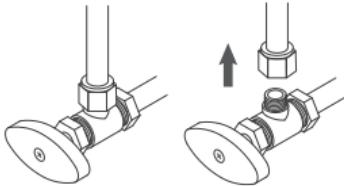

Figure 2
2. Shut off the water supply. Remove the faucet hose. (Figure 2)